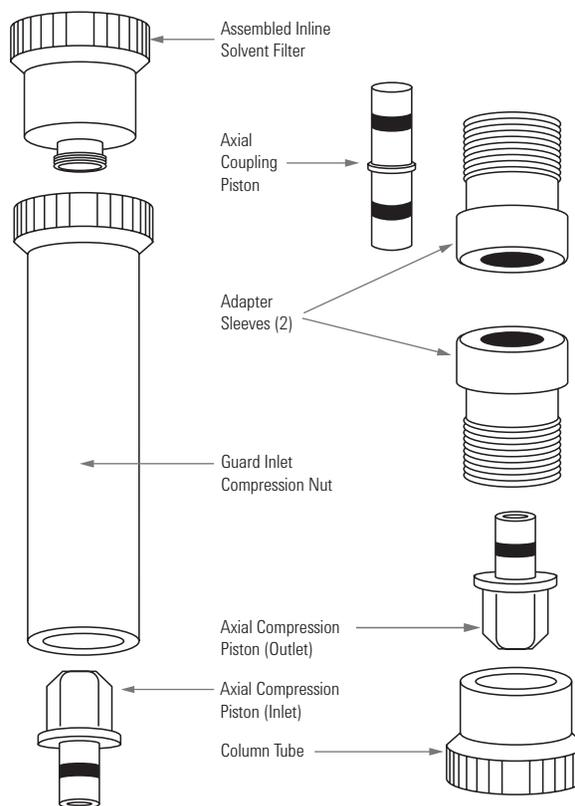

Figure 7. Contents of Analytical End-Fittings Kit No. 2:
7.2. Remove the end-fittings kit from its shipping container. Check that you have all the parts: two axial compression pistons, one axial coupling piston (double piston with two seals), one axial compression nut, one guard inlet compression nut, two adapter sleeves, and an inline solvent filter assembly (see Figure 7). You should also have two 10-32 bushings and two ferrules.
The 4.6 mm guard-column coupling assembly consists of one axial coupling piston and one guard inlet compression nut. These parts may be identified from Figure 7. Check that all parts have been received. Also, check that seals on the axial coupling piston are properly orientated as described in Section 3.3. Couple the guard module to the column as follows:
A column coupler assembly consists of one axial coupling piston (Figure 7) and one column-column coupling nut (not shown). Ensure that the seals are properly orientated on the axial coupling piston as described in Section 3.3.
The Stand-Alone Guard Holder permits a guard module to be used separately as a column. The stand-alone guard holder consists of two axial compression pistons, one guard inlet compression nut (similar, but not identical, to the one shown in Figure 7), an inline solvent filter assembly, and one guard outlet compression nut (not shown). Two 10-